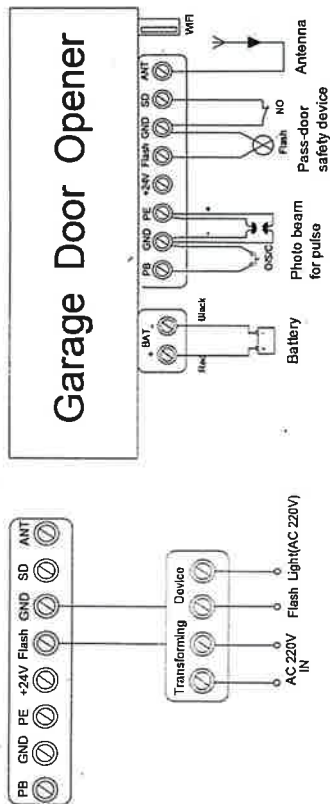

Figure 24
2. Flash light function. (Fig. 24, Fig. 25)
3. Pass door (SD) protection (Fig. 24, Fig. 25)